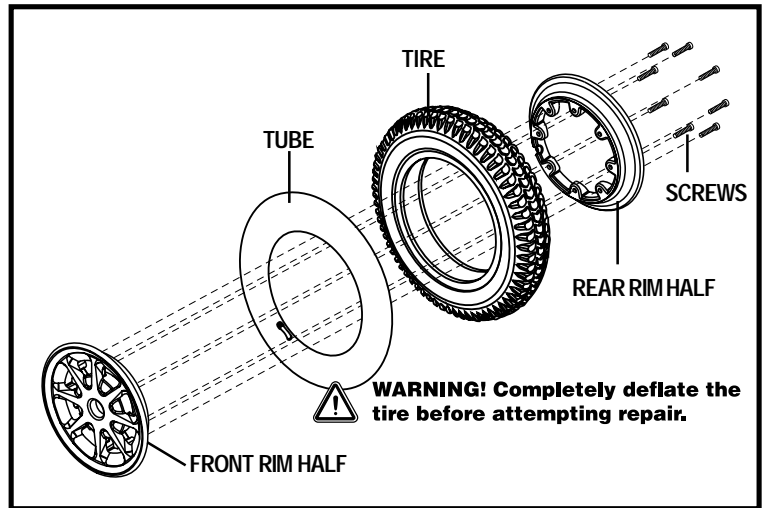

Figure 27. Jazzy 1170XL Plus Drive Wheel Disassembled
6. Remove the screws that fasten the two rim halves together. See figure 27.